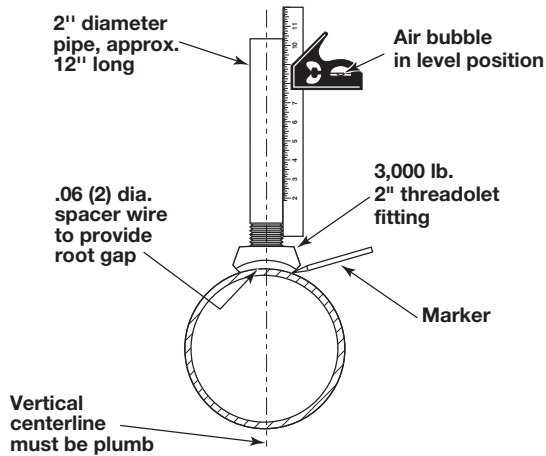
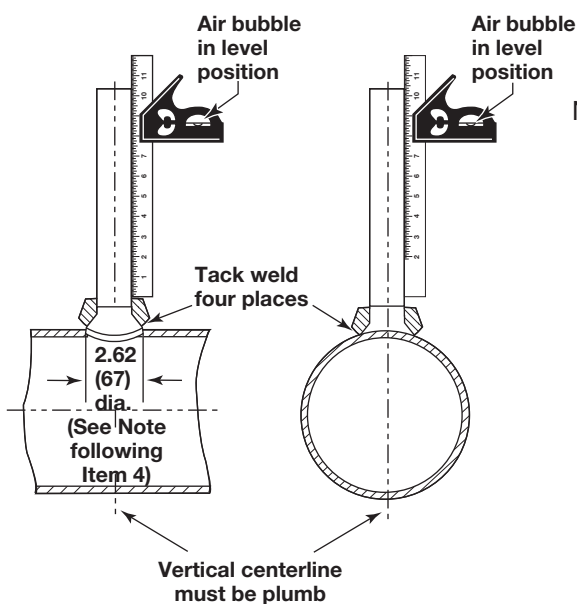

Figure 5
Figure 6
2. Plumb the vertical center line of the fitting and trace around the fitting to locate center line of required 2.62 inch (67 mm) diameter hole. Refer to Figure 5.
4. With fitting concentrically positioned over the 2.62 inch (67 mm) diameter hole, and the vertical center line held plumb (refer to Figure 6), tack weld the fitting at four equally spaced points. After tacking, remove .06 inch (2 mm) diameter spacer wire. Refer to Figure 5.